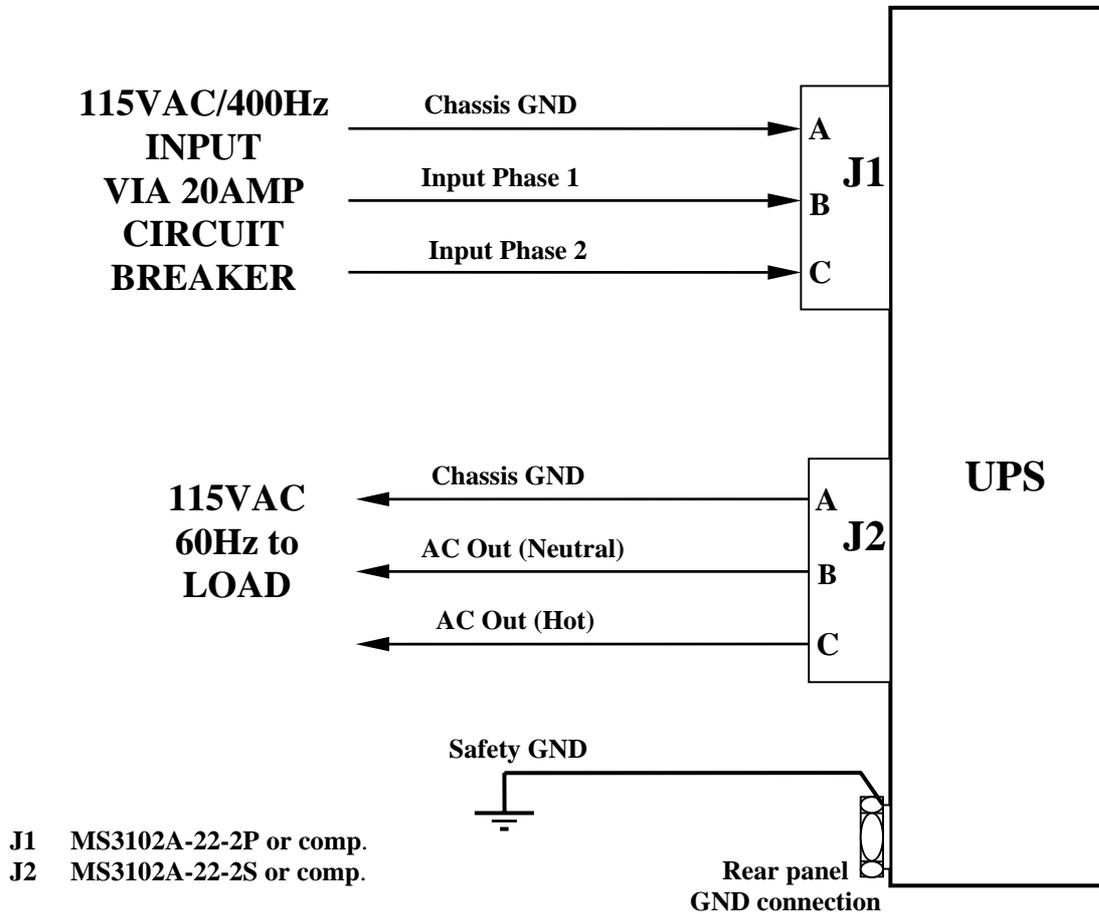

Figure 2 – Electrical Connections
Figure 2 below, shows the electrical power connections of the M110BA-2.
- 24. J1 Input Power Connector (see Figure 2 for pin out).
- 25. J2 Output Power Connector (see Figure 2 for pin out).